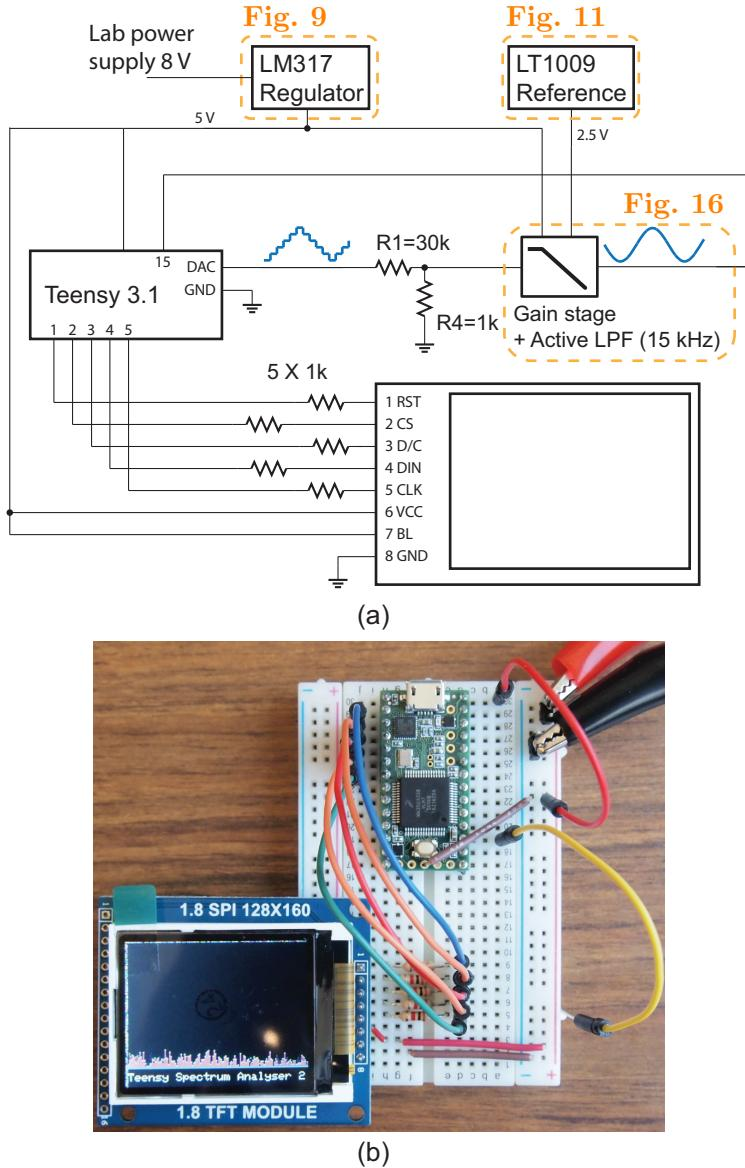

Figure 17: Acquiring, processing, and displaying the signal all within Teensy.
1. Set up the system according to Fig. 17.
7. Now use the audio cable to acquire the signal after the gain stage (position 2 in Fig. 17). Record the data and compare it with that from the last step. Explain the difference, if there is any.